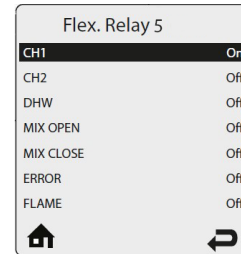

Fig. 16: Flex. Relay 1 Settings
- Once the Relay's actions have been selected, scroll down and hit enter on the **Save and Exit** option at the bottom. This relay shown in Fig. 16 is set to turn on the pump wired to the CH1 terminal only for CH1 calls.